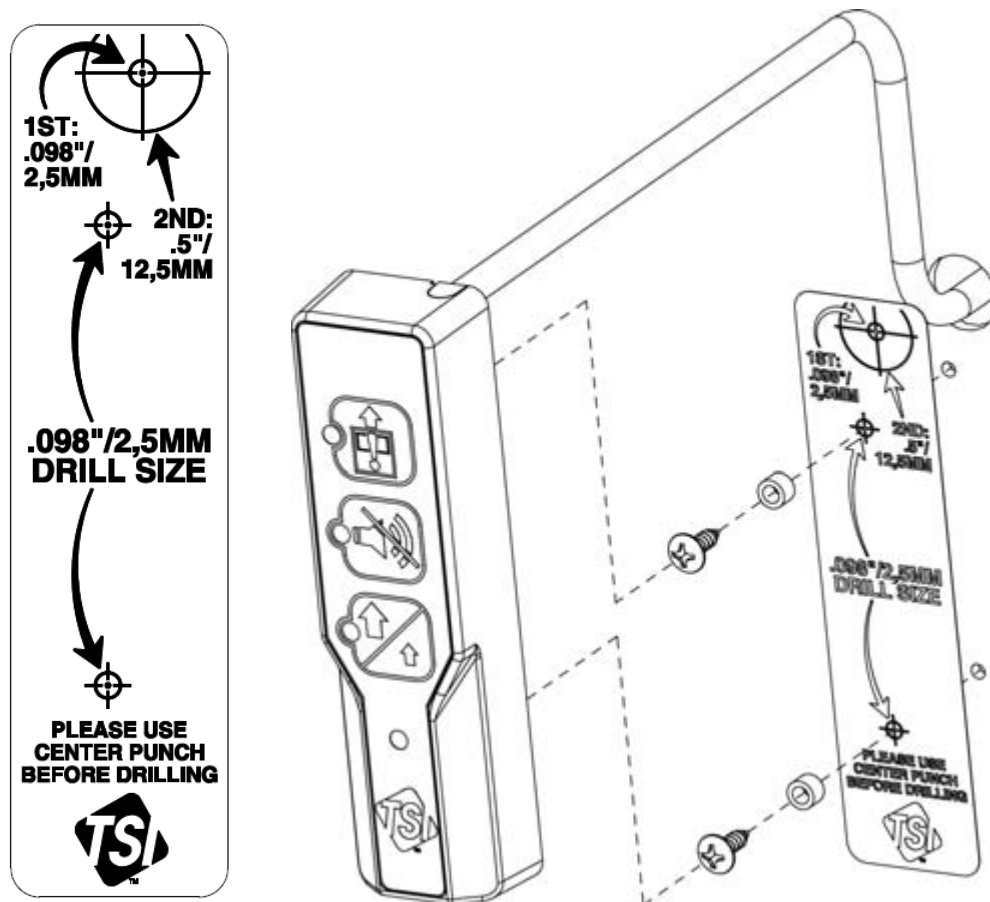

Figure 2: Mounting FHS5 with Cable Routed Inside the Fume Hood Panel
1. Remove the FHS5 Template Sticker backing and apply sticker to the fume hood front panel in the desired mounting location, making sure the Template Sticker is level and centered in the desired location (Figure 2).
2. Following the instructions on the template (using a center punch to mark hole locations prior to drilling), drill the designated holes in the fume hood front panel (Figure 2).
3. Attach the supplied spacers and mounting screws to the fume hood front panel (Figure 2).
4. Route the connector end of the cable on the FHS5 inside the front panel of the fume hood through the previously drilled hole (Figure 2).
5. Align the FHS5 on the mounting screws, push forward until flush with the fume hood, and slide the FHS5 down to secure in place (Figure 2).